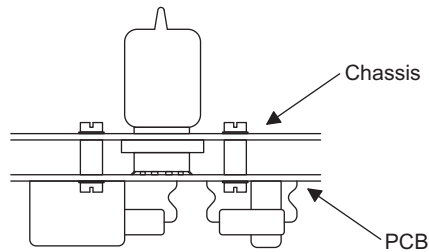

Figure 3.48
- A power amplifier's driver stage usually has its valves showing on the top of the chassis, but PCB capacitors can sometimes be quite tall, forcing the PCB to be mounted so far below the chassis that a valve envelope barely peeps through the chassis, restricting cooling. In this instance, it may be better to mount the valve sockets on the foil side (beware that, from the point of view of the tracks, this reverses the pin order). Unfortunately, mounting the socket on the foil side is mechanically weak because removal of a valve immediately tries to tear tracks off the PCB. The solution is to choose a flanged PCB socket and use PCB mounting spacers of just the right length to press the flange firmly against the chassis plate. See Figure 3.48.